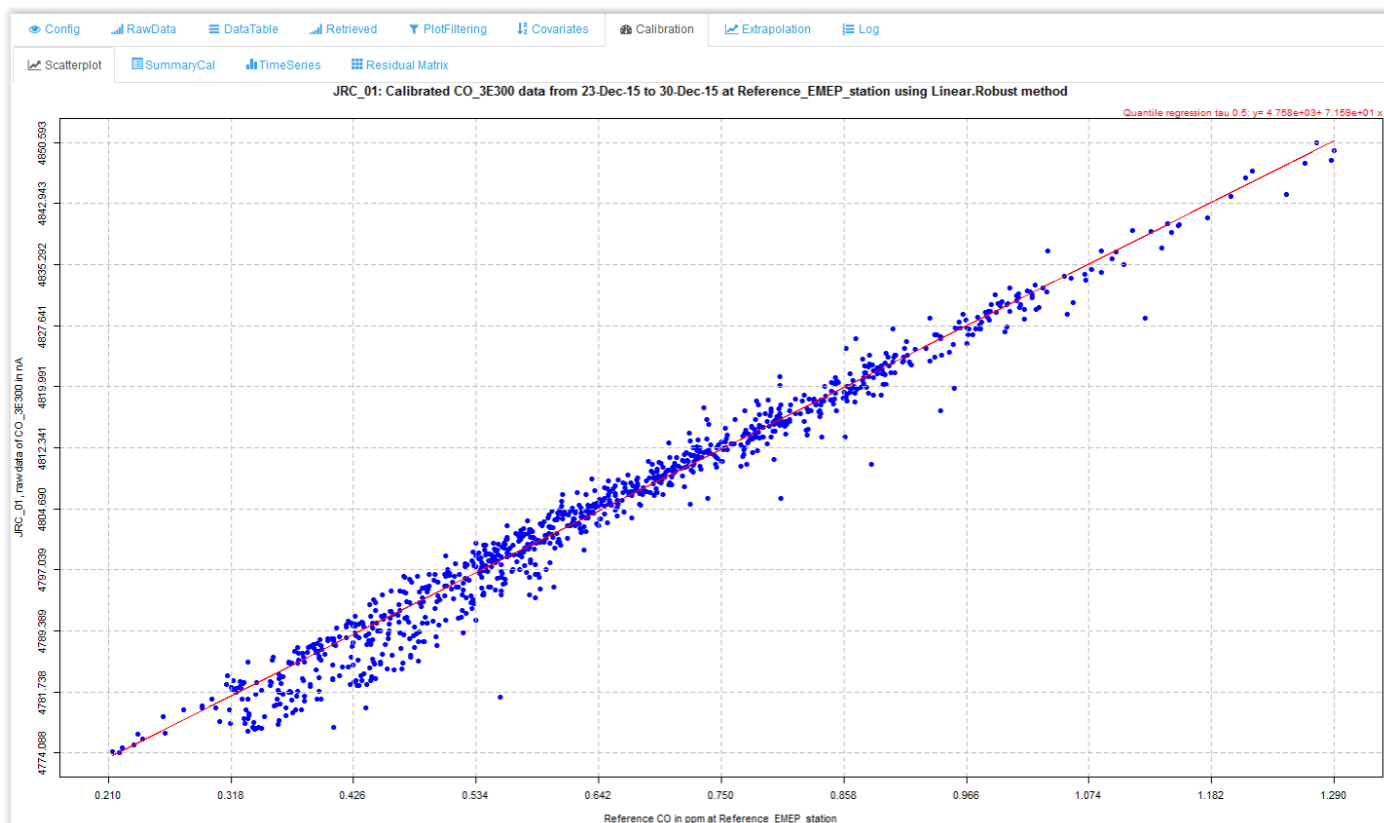

Figure 24: AirSenseEUR R/Shiny web interface for AirSenseEUR. NavBar Menu "Data Treatment", maiTabPanel "calibration" – "ScatterPlot", calibration plot.
- Go back to "Calib" TaPanel of the SideBar Layout and to set the "Method of extrapolation" radio buttons to "New calibration with current data". The calculation process will start and a new scatter plot of calibration is shown, see Figure 24. The list of "Select a previous calibration" is set to the new calibration model.
- Click on all sensors of the sideBarLayout, tabPanel "SelectSensors" to switch between sensors. The plots are automatically saved into directory `~\xx1\Calibration` with name `nameModel__Calibration.png`, see an example in Figure 24: